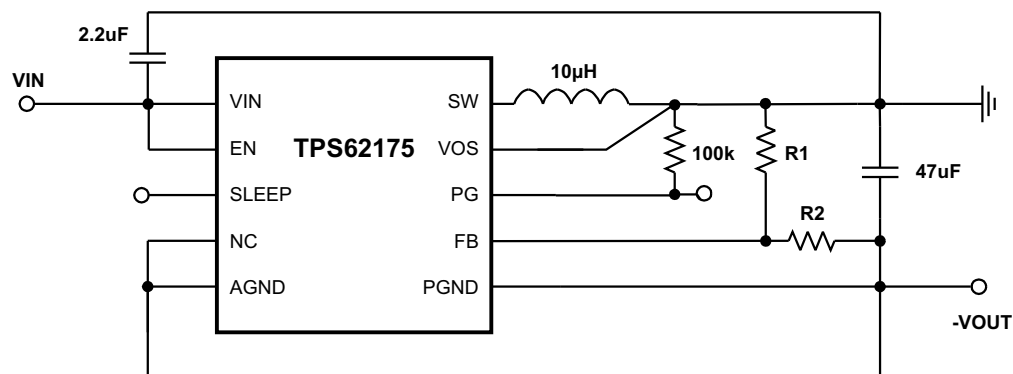

Figure 63. Inverting Buck-Boost Converter
The TPS62175/7 can be used as inverting power supply by rearranging external circuitry as shown in Figure 63. As the former GND node now represents a voltage level below system ground, the voltage difference between V_{IN} and V_{OUT} has to be limited to the maximum operating voltage of 28V.
- Changed Figure 63 28